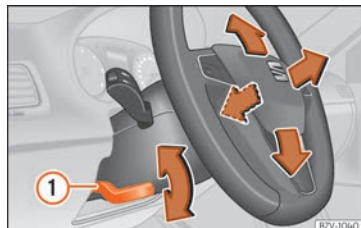

Fig. 5 Lever in the lower left side of the steering column.
- Pull the »»» **Fig. 5 ①** lever down, move the steering wheel to the desired position and lift the lever back up until it locks.
- After adjusting the steering column, push the lever »»» **Fig. 5 ①** firmly upwards to ensure the steering wheel does not accidentally change position while driving.